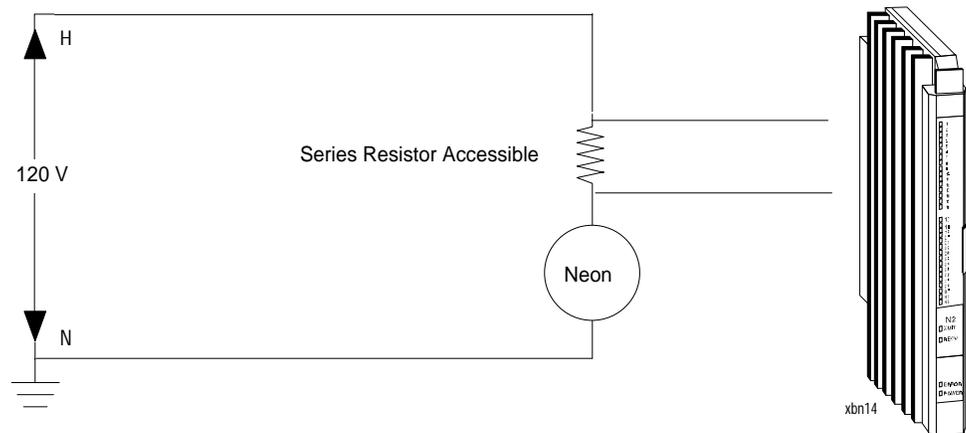

Figure 16: Connecting Across the Resistor for Neon Lamp Applications
- Connect across the lamp's built-in resistor, if it is accessible (Figure 16). (Set the XBN switch to Voltage mode.)